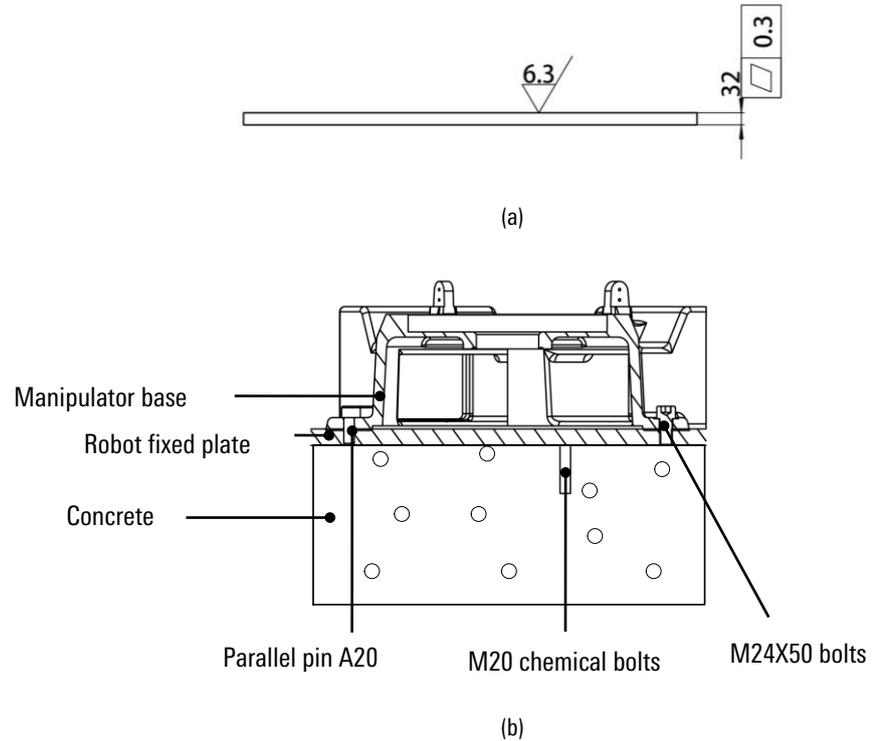

Figure 4-2 Fixed mode 1 of Fixing for Manipulator
- Fixing plate surface shall meet certain roughness and flatness requirements as detailed in Figure 4-2.